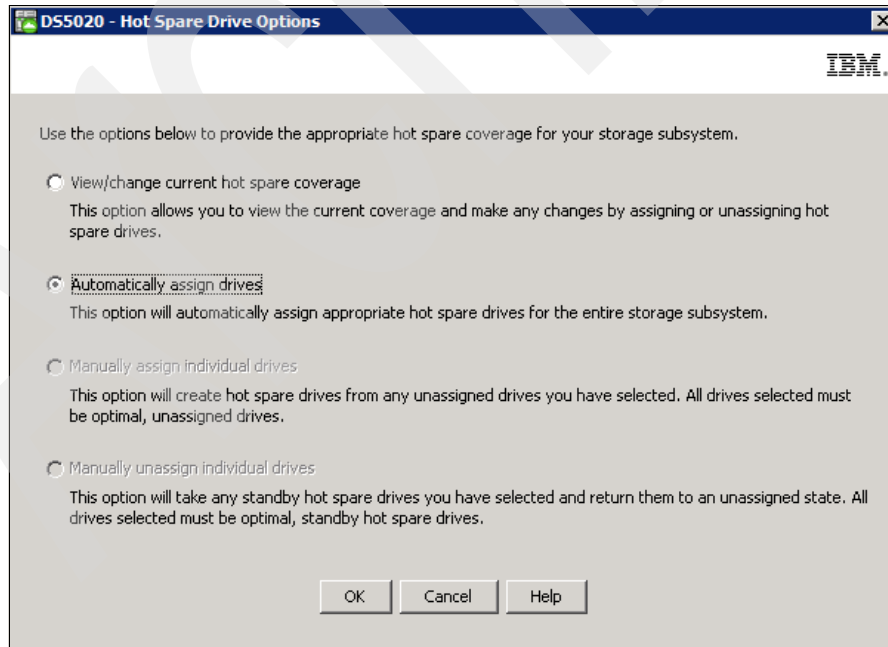
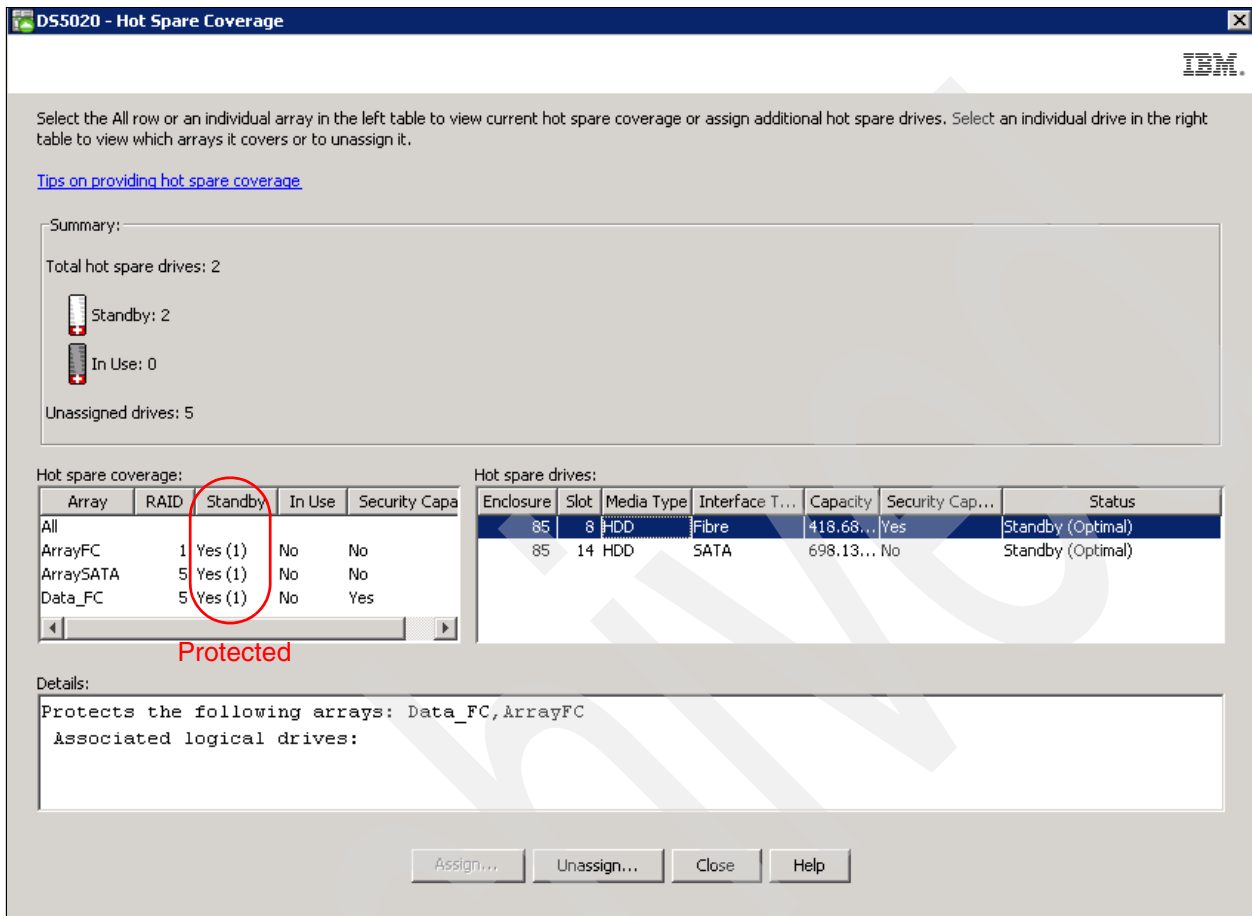

Figure 4-50 Hot Spare Drive Options
Figure 4-55 View/Change hot spare coverage
Select **Configure hot spare drives**. The window shown in Figure 4-50 opens.
1. To automatically create the hot spare coverage using the drives that are available, select **Automatically assign drives**, as shown in Figure 4-50. The recommended quantity of spares drives needed for your configuration are created automatically.
2. This opens the Hot Spare Drive Options window, as shown in Figure 4-50, but this time with the option **Manually assign individual drives** selected by default. Click **OK** and the unassigned drive is defined as a hot spare.
- The Hot Spare Drive Options window opens, as shown in Figure 4-50. Select **View/Change current hot spare coverage** and click **OK**. This opens the window shown in Figure 4-55.